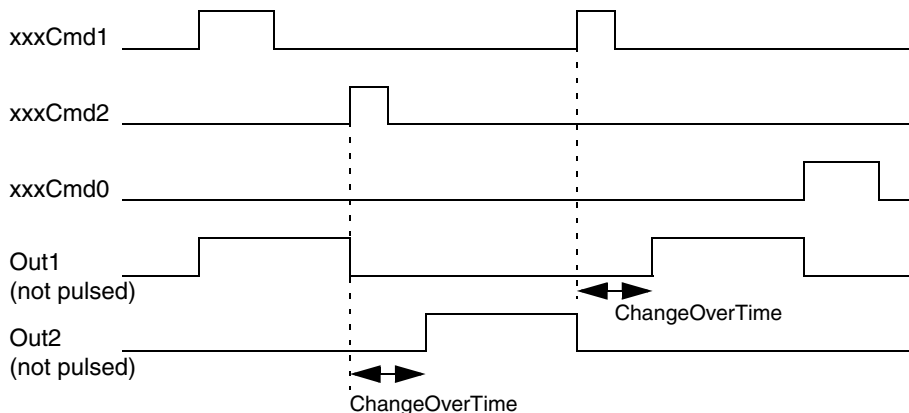

Figure 127. Change-over action state diagram
(switching forward/reverse). The parameter *ChangeOverTime* sets a delay time, before the direction can be changed (see Figure 127).
- The *Ilock1*, *Ilock2* and *Ilock0* interlocking parameters block commands in all modes, so that the object cannot be forced to the activated or deactivated states, respectively. The *Inhibit* signal will suppress interlock signals when True. Figure 127 shows which changes between states that are blocked by interlocking parameters.